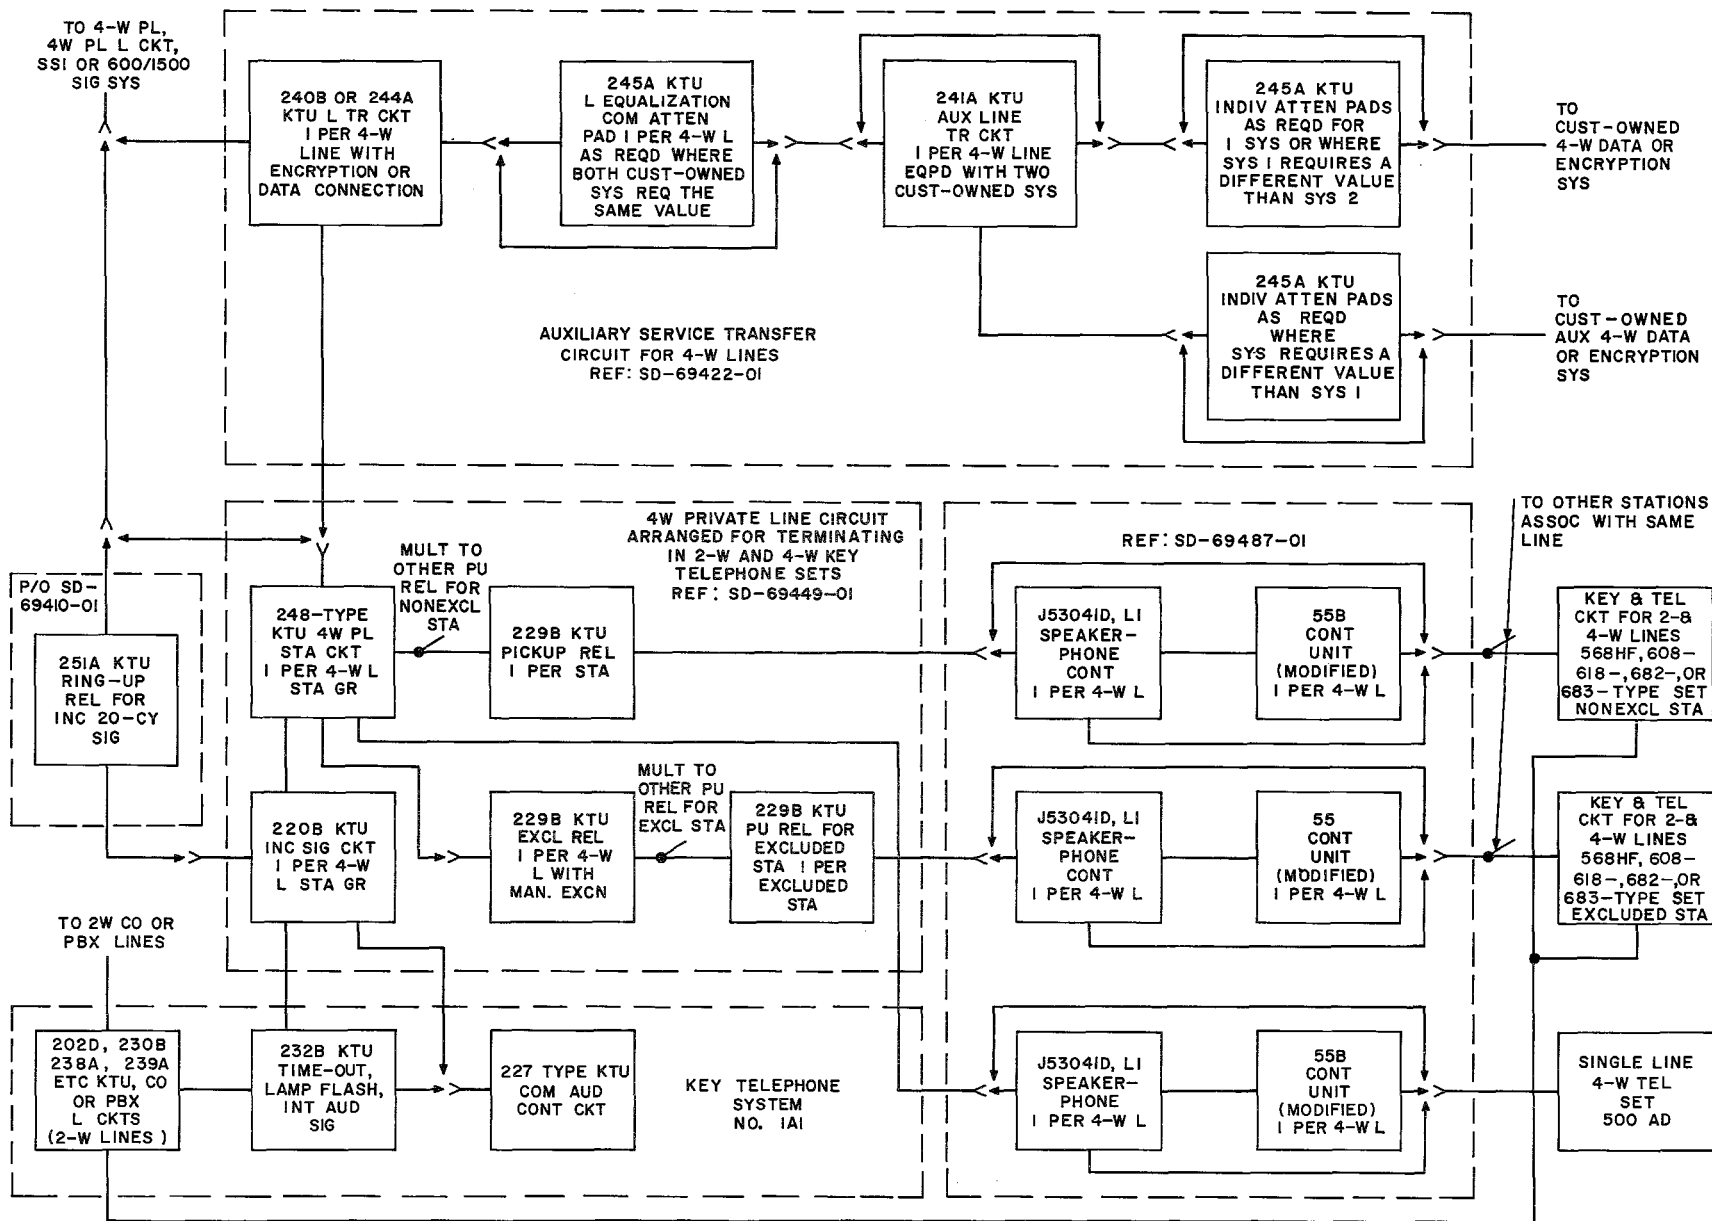

Fig. 1 — Block Diagram, Station Arrangement For 2- and 4-Wire Service
- Show the 565HF telephone set as a replacement for the 565HB which is rated Manufacture Discontinued (MD).
- (a) To provide an arrangement for terminating a 4-wire local battery private line circuit in single line or 2- and 4-wire key telephone sets (Fig. 1).
- Set, Telephone, 683- or 608-(MD) type, 30-button CALL DIRECTOR®
- Set, Telephone, 682- or 618-(MD) type, 18-button CALL DIRECTOR